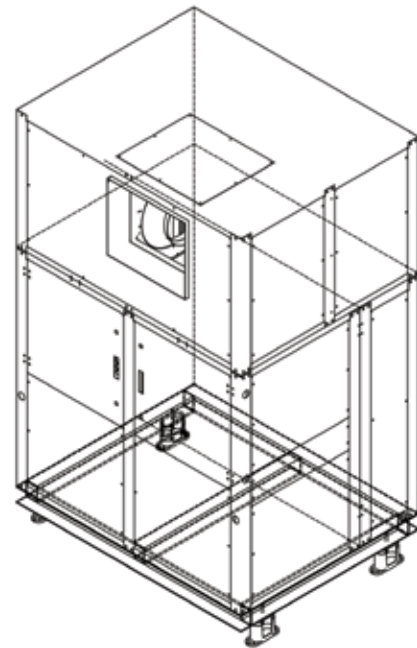

Figure 3B - Base Option 1 - Unit View - Single Module
1. **Steel Frame with Spring Isolation** – Fabricate a steel frame to provide support around the entire perimeter of the unit. Allow sufficient clearance for any door or panel access that is required to provide field service or maintenance on the unit. The frame will also need to be designed with suitable cross bracing. See Figure 3B and notice that the middle beam supports the mid-section of the unit. Field supplied spring vibration isolators are to be installed on each corner of each frame per module.